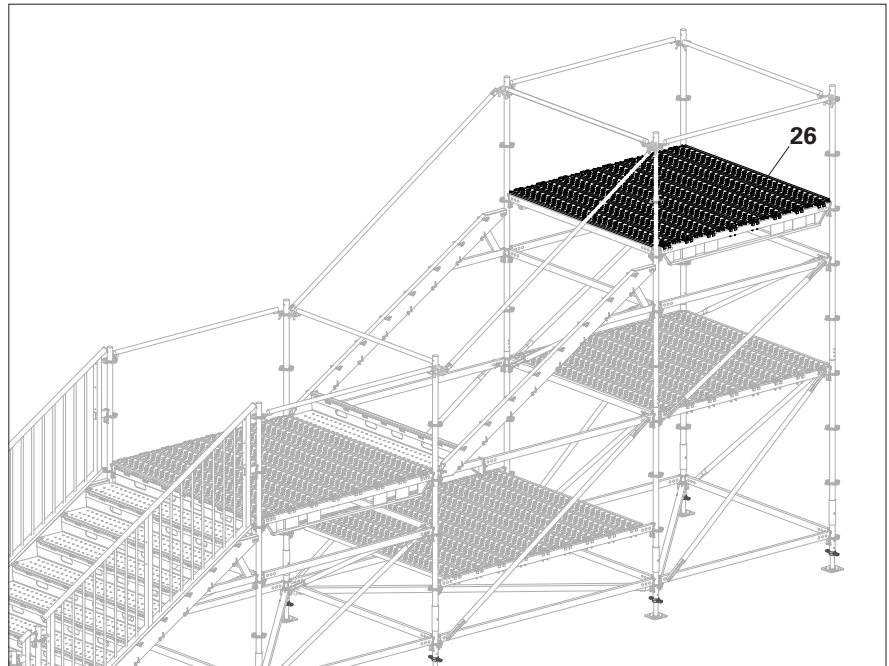

Fig. C1.14
1. Fit 7 x Steel Deck UDG-2 25x200 (**26**). (Fig. C1.14)